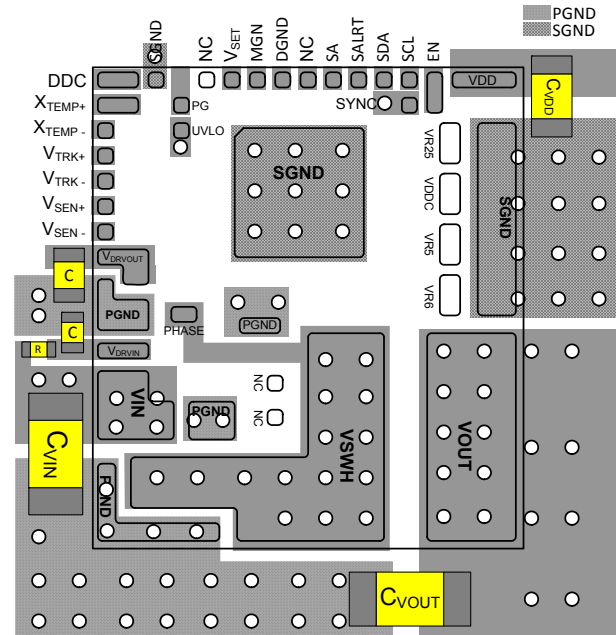

FIGURE 29. RECOMMENDED LAYOUT - TOP PCB LAYER
- For  $VDD > 6V$ , the recommended PCB layout is shown in Figure 29. Leave V25, VDDC, VR5, and VR6 as no connect.